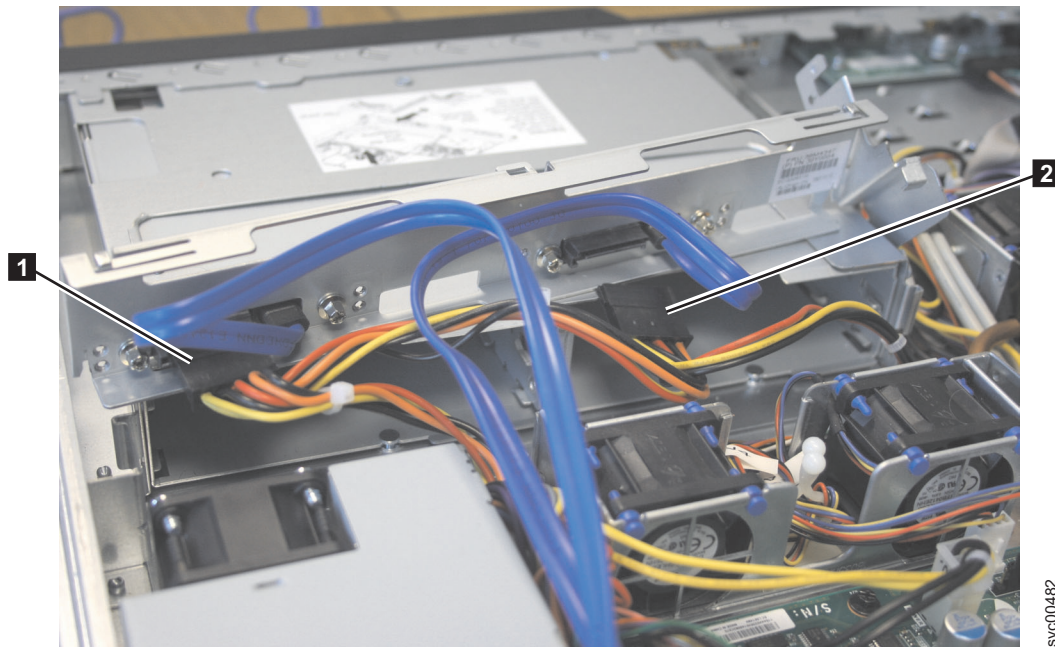

Figure 267. SAN Volume Controller 2145-8A4 power supply connectors
9. Remove power connectors P1 **1** and P6 **2**, as shown in Figure 267 on page 245.